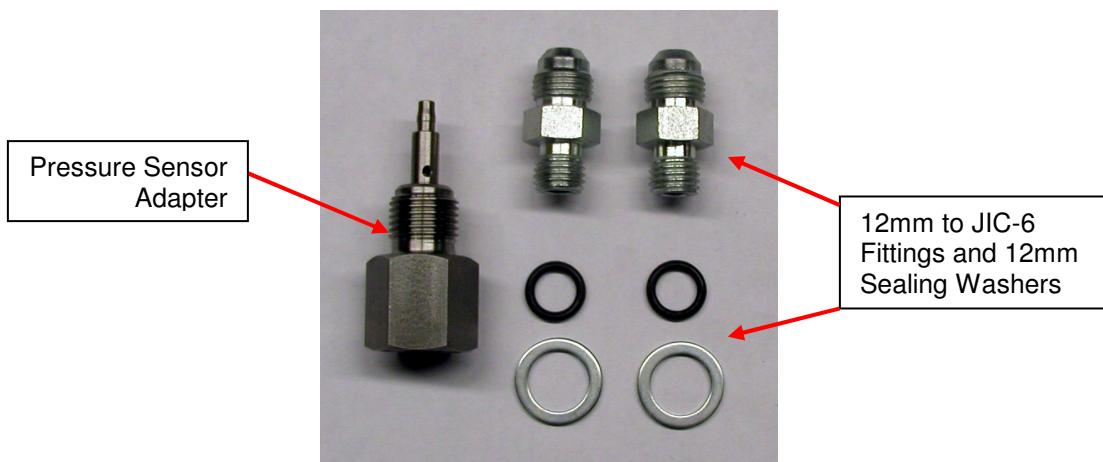

Figure 1 - CP3 Pump Fittings
1. Please make sure all pump fittings are packaged together in the Dodge Twin CP3 "No-Pump" Kit. These fittings are shown in **Figure 1**.